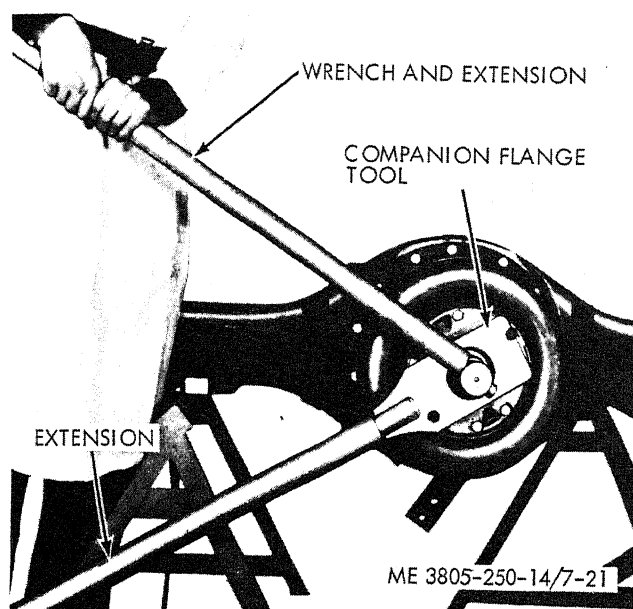

Figure 7-21. Companion flange removal.
(3) Remove bolts and lockwashers and disconnect the front propeller shaft.
(4) Remove the axle shafts from the axle housing as described in paragraph 7-12.
(5) Attach a companion flange retaining tool to the flange as shown in figure 7-21. Remove the companion flange cotter pin and nut.